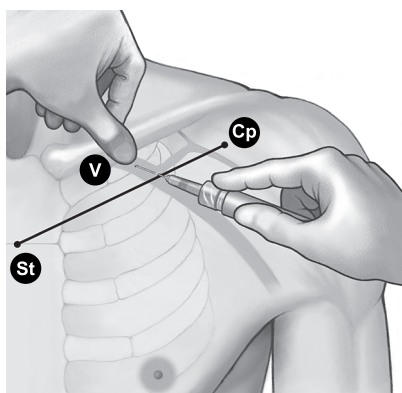

Figure 8. Location of thumb and needle entry
4. Press a thumb against the index finger and project 1–2 centimeters below the clavicle to shield the subclavius muscle from the needle (when hypertrophy of the pectoralis muscle is apparent, the thumb should project about 2 centimeters below the clavicle because the subclavius muscle should be hypertrophied as well) (Figure 8 Location of thumb and needle entry on page 18).